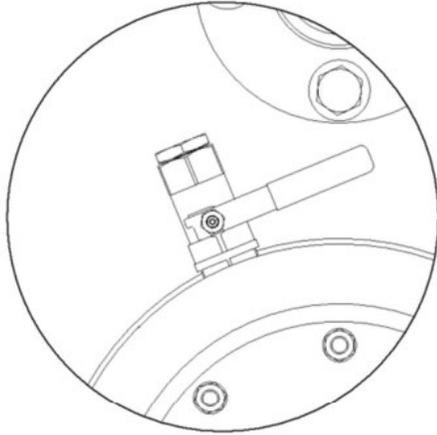

Figure 1. Ball Valve and Plug
- **Figure 1** The ball valve and plug come pre-assembled to the pulse assembly of the filter.